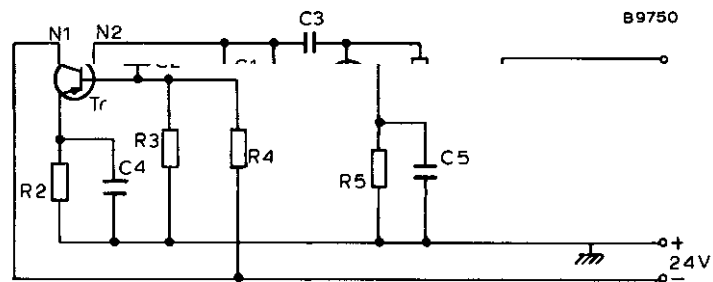

Fig. 2
- For instance, in apparatus constructed from the circuit shown in Fig. 2, it was found that all capacitors have a conversion efficiency between 10 and 40% with a voltage across L_1 of 1V r.m.s.